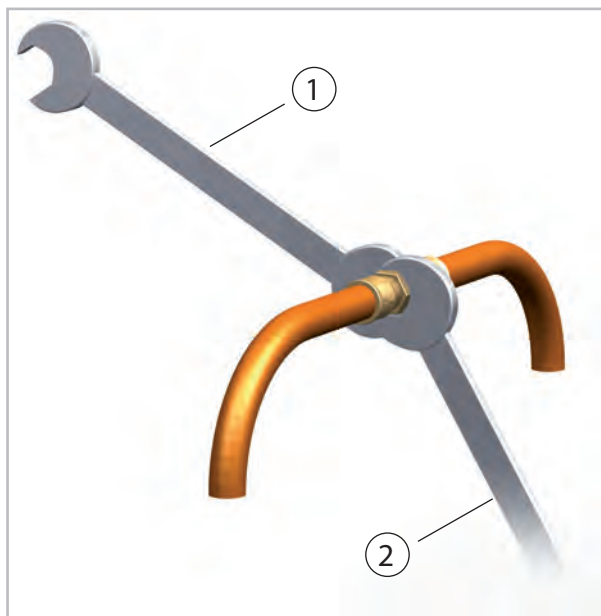

Fig. 14: Tightening the fitting
13. ➤ Then tighten the fittings with 2 appropriately-sized open-ended spanners. Use one spanner to counter the force when tightening the fitting (Fig. 14).